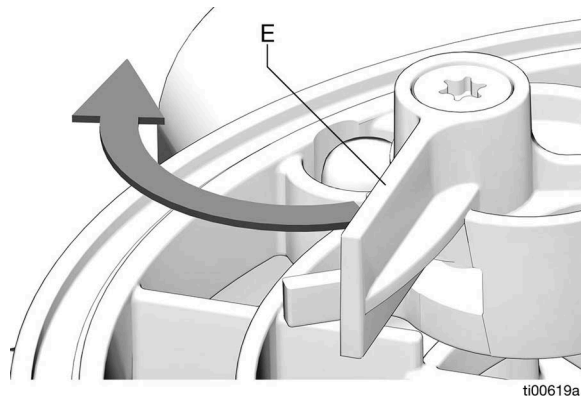

FIG. 9
NOTE: If a low level paddle (E) is installed, to prevent damage, hold low level paddle in its full out position while installing stirring paddle (FIG. 9).
1. Verify low level paddle (E) is in full out position as shown in FIG. 9.